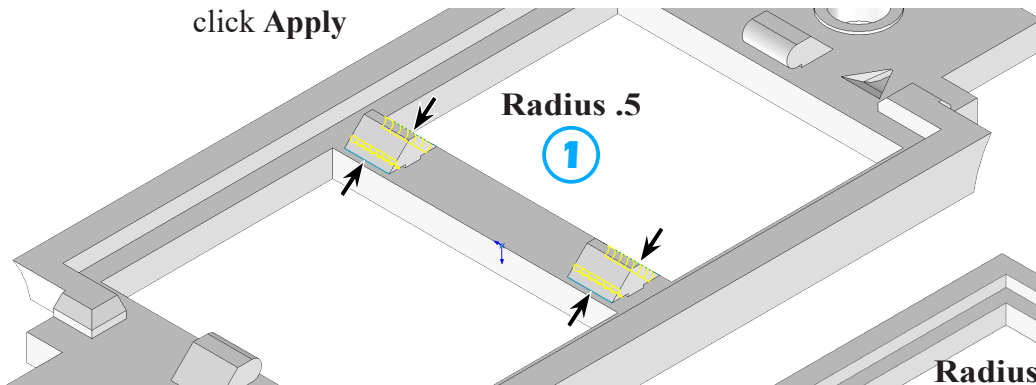

Fig. 98
Step 1. Rotate view to Isometric 180°, Fig. 98. Shift click the Z axis of the Reference Triad two times.
① Radius .5
click front edge of both center holders (4), Fig. 98